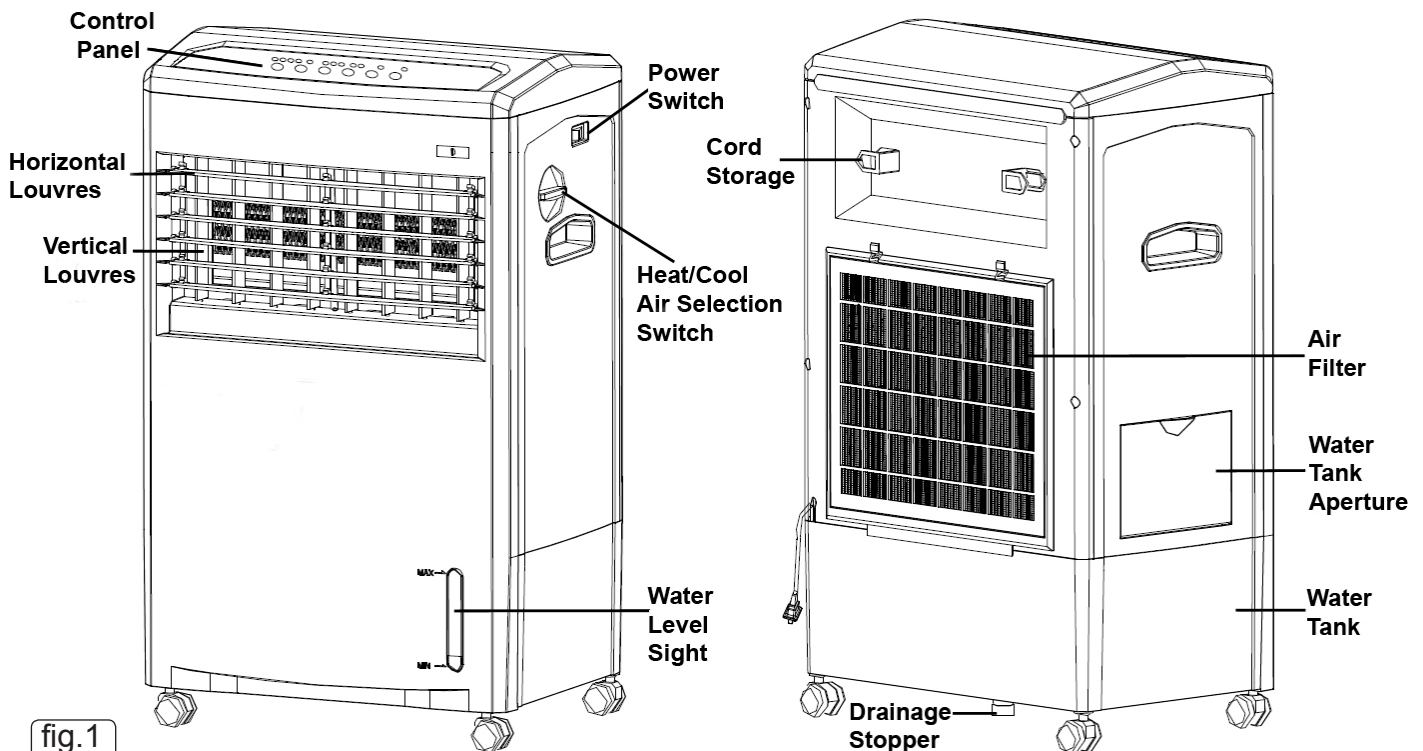

fig.1
3.1.1. Heat/Cool Air Selection Control (on side of unit - fig.1)
- 3.2.1. The unit produces a cooling effect by evaporating water which is contained in a tank in the base of the unit. Before using as a cooler, the water tank must be filled. *Ensure that the unit is unplugged from the mains supply before topping up with water.* Open the water tank aperture on the side of the unit (fig.1), and pour water into the tank. Check the level of water in the tank through the water level sight at the front of the unit. The level should be between 'min' and 'max'. Close the cover. For an increased cooling effect, additionally place ice directly into the tank.
4.3. If the unit is not to be used for a long period of time, drain off any water remaining in the tank. Place a large enough container under the rear of the unit, remove the rubber drainage stopper (fig.1) to allow the tank to drain. When the tank is empty, replace the stopper firmly. Clean the unit and air filter as above, and store in a safe, dry area, out of the reach of children.